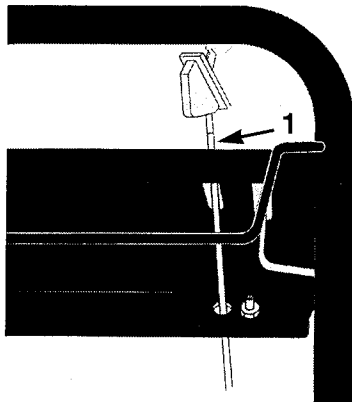

Figure 68
- A. Insert the end of the shift cable through the slot and the hole in the control panel (Fig. 68).